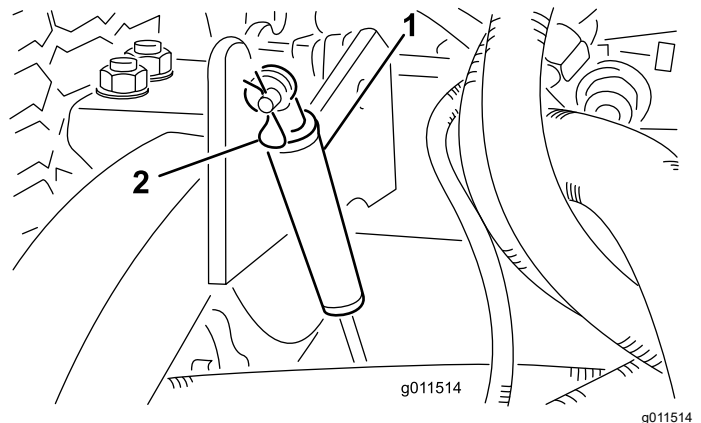

Figure 89
2. Remove the hairpin cotter securing the dampers to lift arms (Figure 89).